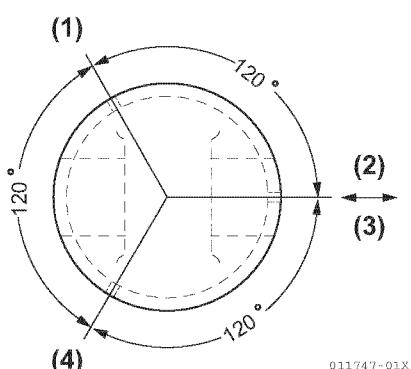
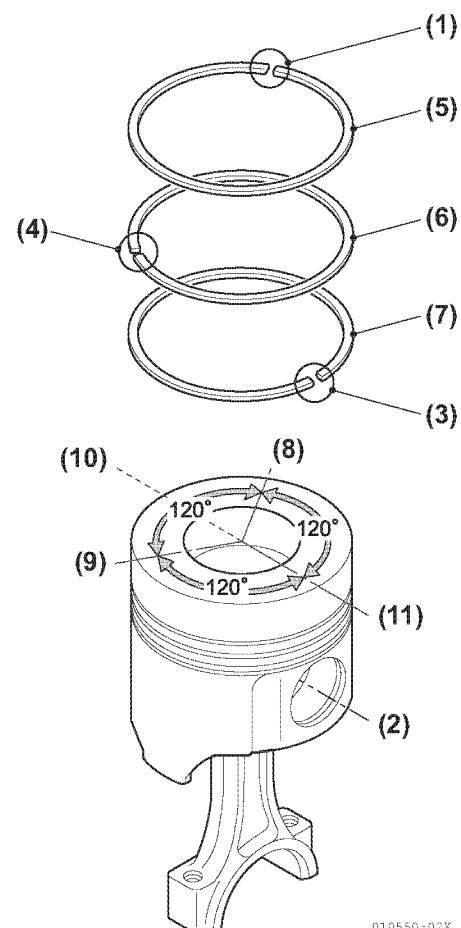
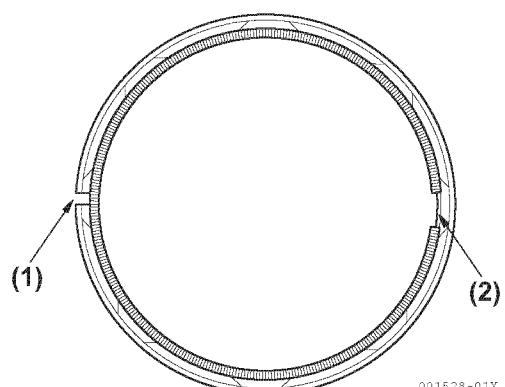

Figure 5-137
Figure 5-138
Figure 5-139
- The piston ring joints must be staggered at 120° to each other. Do not position the top ring joint in line with the piston pin (**Figure 5-137**) and (**Figure 5-138**). The coil expander joint must be opposite the oil ring joint (**Figure 5-139**).